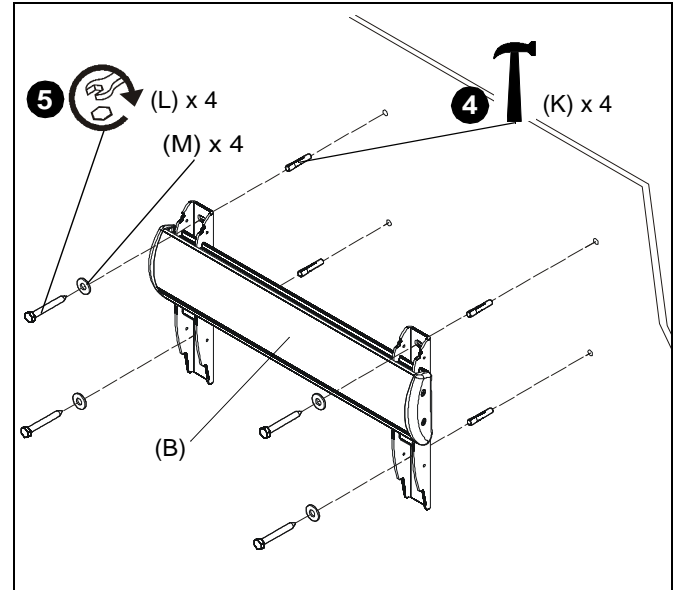

Figure 2
4. Install four concrete anchors (K) into drilled holes. (See Figure 2)
5. Install four 5/16 x 2-1/2" hex head lag screws (L) through four 5/16" washers (M), outer holes of mounting bracket (B) and into concrete anchors (K). (See Figure 2)